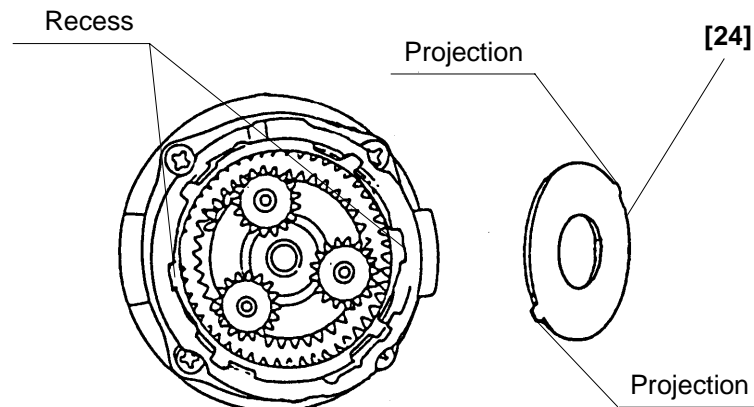

Fig. 13
Install Washer (B) **[24]** in the Rear Case **[17]** with the projection of Washer (B) **[24]** engaged with the recess in the Rear Case **[17]**, and turn Washer (B) **[24]** clockwise until it can turn no further. (See Fig. 13)